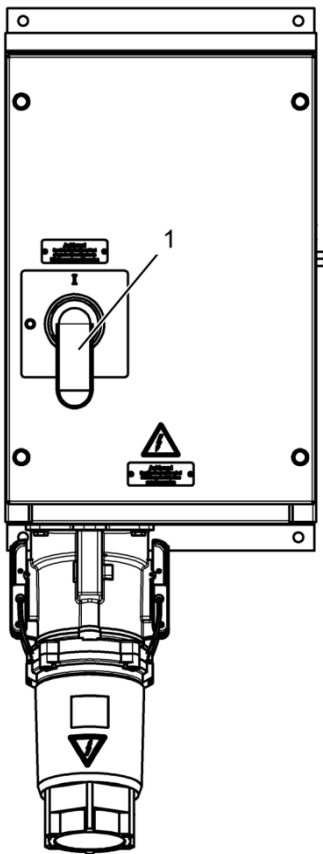

Fig. 68: Powering on
2. Turn the circuit breaker to position I (Fig. 68 /1).